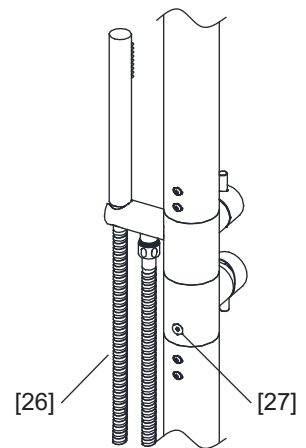

Fig 6
1. If the lowest temperature is higher than 32°F at your location, you can leave your outdoor shower faucet outside. If the outdoor shower faucet is not being used for a long time, turn the diverter handle upward and drain the water inside the faucet by removing the **Plug [27]** at the back of the faucet. Disconnect the **Shower Hose [26]** from the faucet and drain the water inside. Install the **Shower Hose [26]** and **Plug [27]** back to the faucet. (Fig 6)